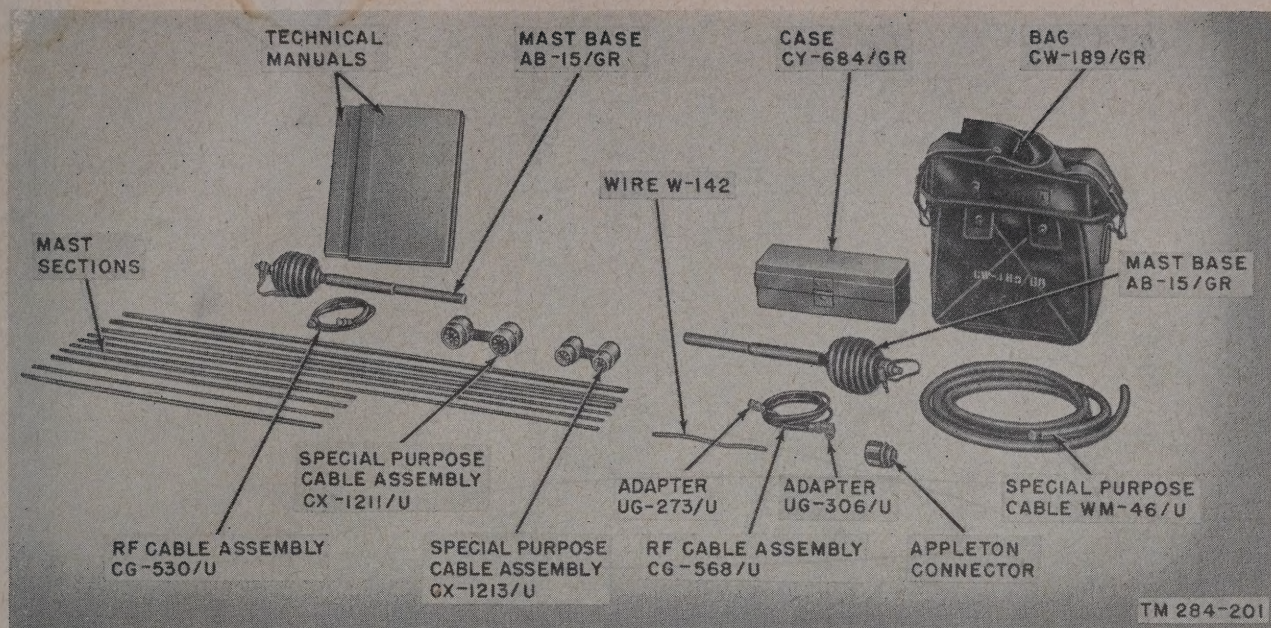

Figure 14. Minor components of Radio Set AN/GRC-3.
ent radio sets is shown on figure 33. The following components of the antenna system are illustrated on figure 14:
- (1) Mast Base AB-15/GR.
- (2) Mast Sections MS-116-A, MS-117-A, and MS-118-A.
- (3) Mast Sections AB-22/GR and AB-24/GR.
- (4) Adapters UG-273/U and UG-306/U.
- (5) RF Cable Assembly CG-568/U.
- (6) RF Cable Assembly CG-530/U.
b. *Other Minor Components.* The other minor components of the radio set are illustrated on figure 14 as follows:
- (1) Special Purpose Cable Assembly CX-1211/U.
- (2) Special Purpose Cable Assembly CX-1213/U.
- (3) Wire W-142.
- (4) Special Purpose Cable WM-46/U.
- (5) Connector and Bondnut, Appleton, Electrical Company No. 61007 and BL-50, or equal.
- (6) Case CY-684/GR.
- (7) Bag CW-206/GR. This bag is not shown in figure 14. It is the antenna mast section roll.
- (8) Bag CW-189/GR.